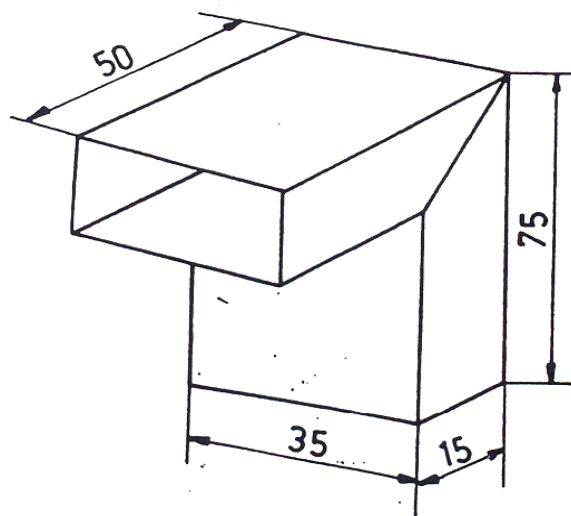

Fig. 1
1. Draw the development of Duct shown in Fig. 1.